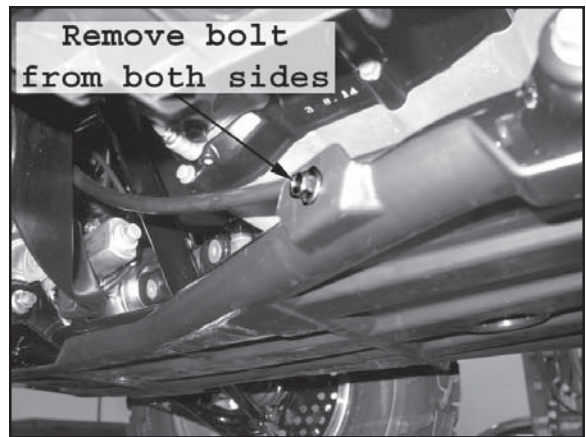

Figure 3 Remove Bolts in SkidPlate
1. Remove the two bolts, located just behind the front wheels, that hold the skidplate to the chassis as shown in Figure 3.